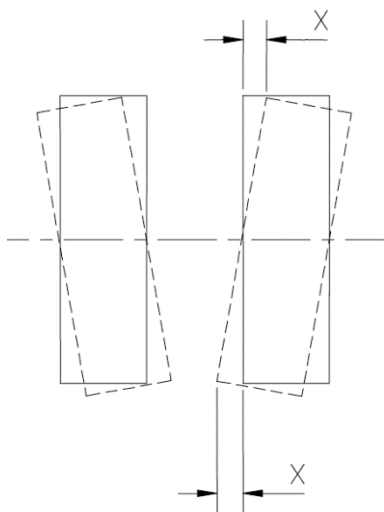

Figure 8.2: Measuring the angular misalignment
Check the angular offset with the help of dial gauges by measuring the axial run-out at the inner plane surface of the hub (item 1). The dial gauge must hereby be positioned as close to the outer diameter as possible. The angular offset 'X' in inch amounts to half of the calculated total value (see figure 8.2). The values of the angular offsets should not exceed the permissible initial offsets specified in table 8.2.